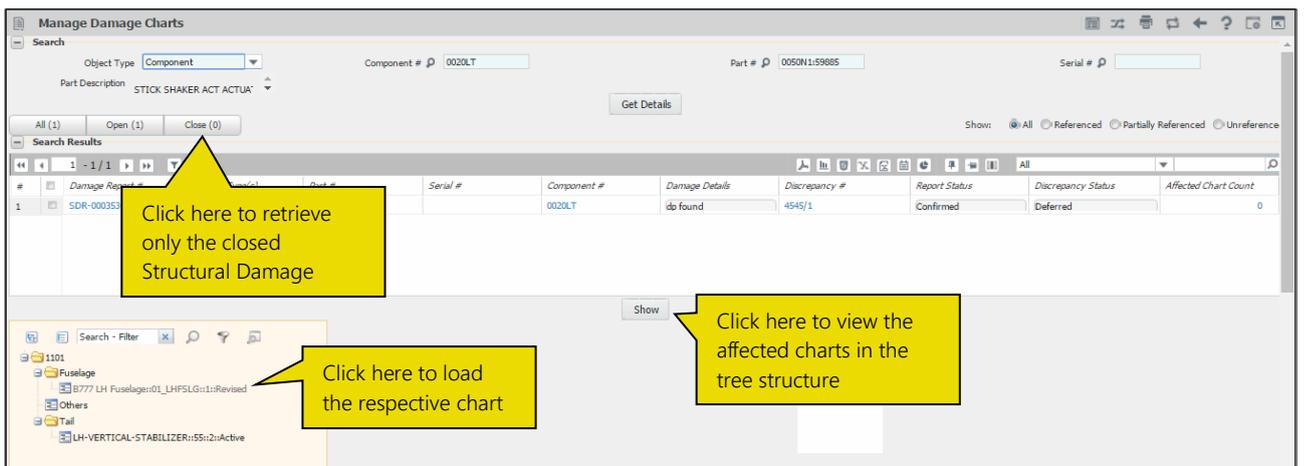

Figure 3.6 Identifying resolution procedure
1. Select the option **Component** against which charts have been uploaded, from the **Object Type** drop down list box. See Figure 3.6.